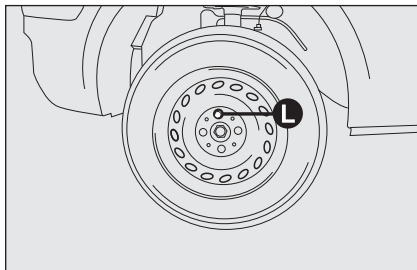

fig. 5
- for versions with hub caps, remove the cap after unscrewing the 3 fastening bolts and finally unscrew the fourth bolt **L**-fig. 5 and remove the wheel;